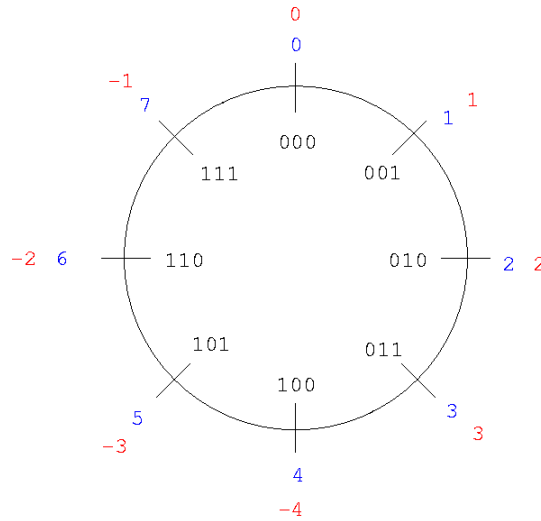

Figure 1: Mapping of negative numbers to positive numbers in 3 bit representation.
- Your 8-bit output **Y** [Y7..Y0] will be used to display decimal numbers corresponding to binary representation of X. Only one bit of Y is set at a time. Y0 means 0, Y5 means 5 (or -3, see Figure 1).